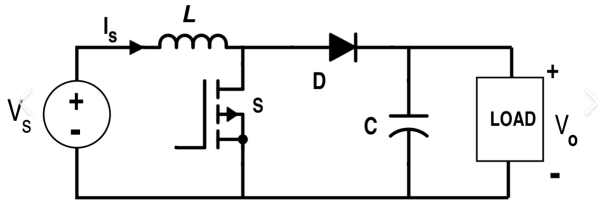

Fig 1: Boost converter
A traditional DC-DC boost converter is shown in figure 1. It consists of a capacitor, inductor and diode, with a switching transistor, a MOSFET. The output of boost converter is stepped up by a factor, which is dependent on the duty cycle(D) and the switching frequency(f_s) of the MOSFET. The MOSFET is turned on and off at a high frequency, because of which, the inductor charges and discharges. When the switch is turned on (T_{on}), the diode is reverse biased, hence, the circuit acts as two independent circuits, where the inductor charges and the capacitor discharges. When the switch is turned off (T_{off}), the diode conducts, hence the inductor discharges and capacitor charges. During this time, the output voltage is the voltage across the capacitor. The total time period, T_s or simply, T